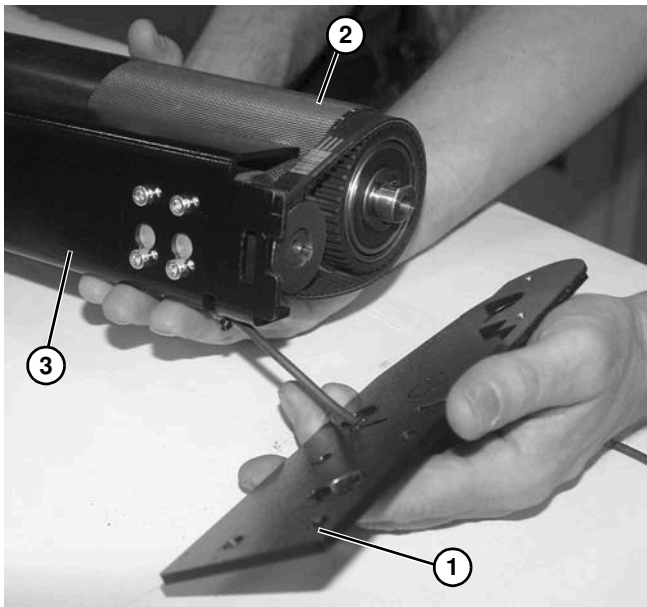

Figure 194
10. Remove cover plate (Figure 194, item 1) from spindle (Figure 194, item 2) and crossmember (Figure 194, item 3).